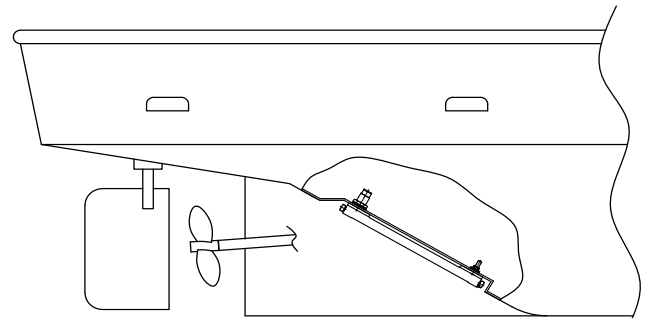

FIG.3 Recessed installation is made by welding in a box-shaped recess in the hull. Note aft end of recess is tapered to prevent hot water entrapment.
- 1.1.4 When the GRIDCOOLER unit is used on a generator set or if your application requires sizing for a hull speed of 0 knots, make sure that sea water can freely circulate past the cooler tubes. Do not recess a generator set unit on the bottom of a flat bottom boat unless the hull section where the unit will be mounted inclines a minimum of 20 degrees (from forward to aft) to avoid entrapment of heated water around the tubes. See Figure 3.
- 1.2.1 On vessels performing pushing, towing, dragging or pulling operations, the unit may be installed near the propeller, but not directly above it. See Figure 3. Install the unit to avoid the full impact of the propeller wash as this could cause damage to the unit.